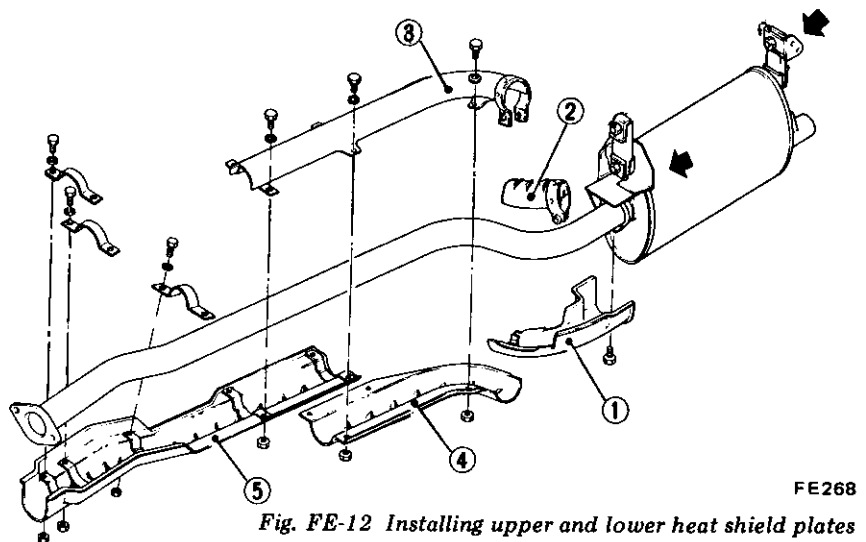

Fig. FE-12 Installing upper and lower heat shield plates
- Put rear of lower heat shield plate ④ upon front of lower heat shield plate ①. Put rear of upper heat shield plate ③ upon front of upper heat shield plate ②, and tighten with upper heat shield plate ③ clamp. Refer to Figure FE-12. Align brackets of upper and lower heat shield plates ③ and ④, and tighten with bolts evenly. Install lower heat shield plate ⑤ to assembly.